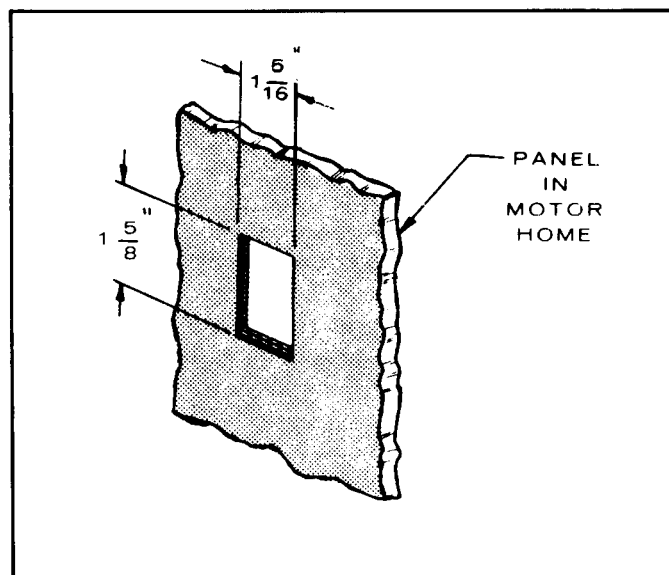

FIGURE 60. PANEL CUTOUT (300-0985)
1. Determine location of remote control and cut a hole in motor home panel to accommodate switch (Figure 60).